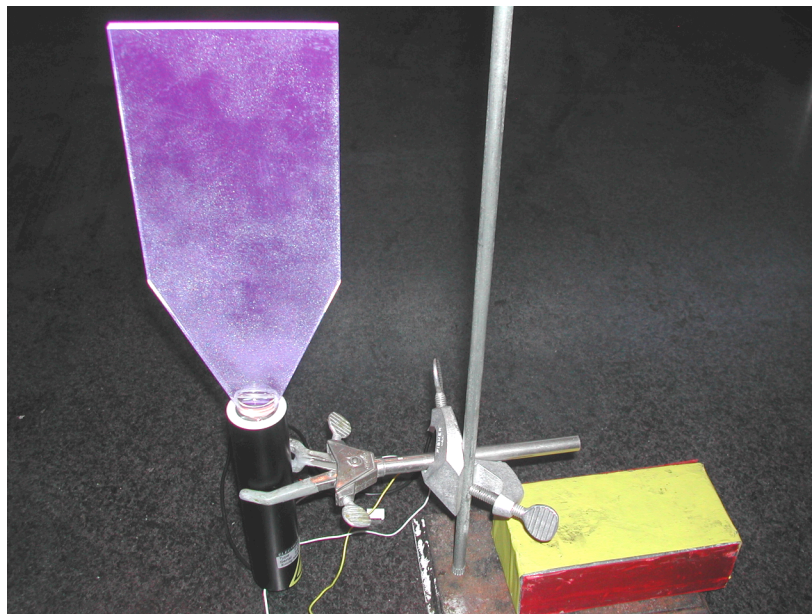

Figure 13: Scintillator bonding with the end mount photomultiplier undisturbed for 24-48 hours.
7. **Let the scintillator and photomultiplier sit undisturbed (Figure 13) for 24-48 hours or the length of time specified by the manufacturer of your optical cement.** You may brace the scintillator resting on top of the photomultiplier if necessary. Do not lift the scintillator end off the glass unless you plan to clean the surfaces again and re-glue.